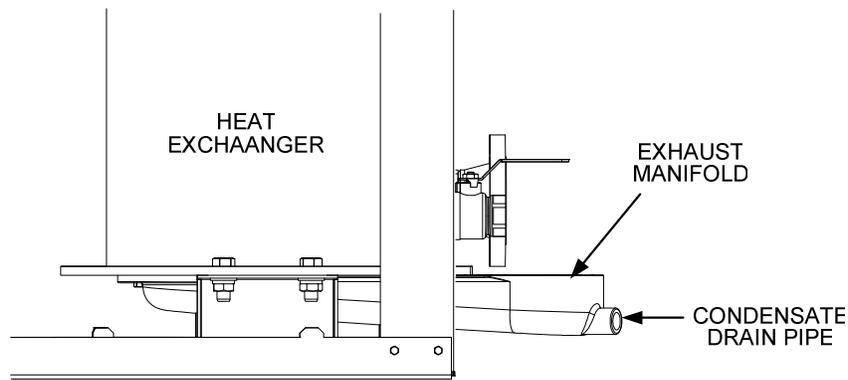

Figure 11. Exhaust Manifold Condensate Drain Location
7. Check the condensate drain pipe on the exhaust manifold (Figure 11) to ensure it is clear of blockage.